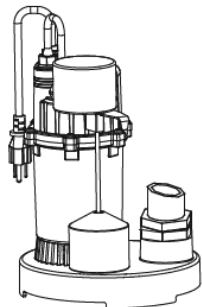

Fig. 2
2. Install a sump pump check valve (not included) into the pump (Fig. 2).